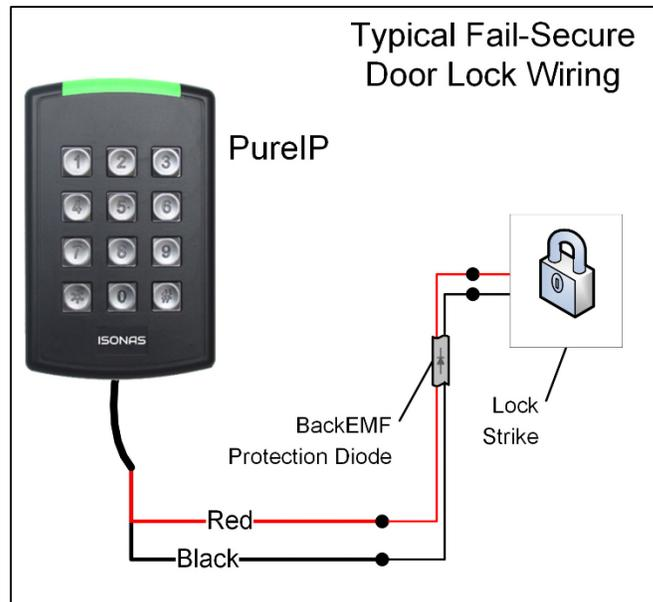

Figure 7
1. Connect the **Red** wire on the ISONAS Reader-Controller to the positive lead of the electric lock. See **Figure 7**